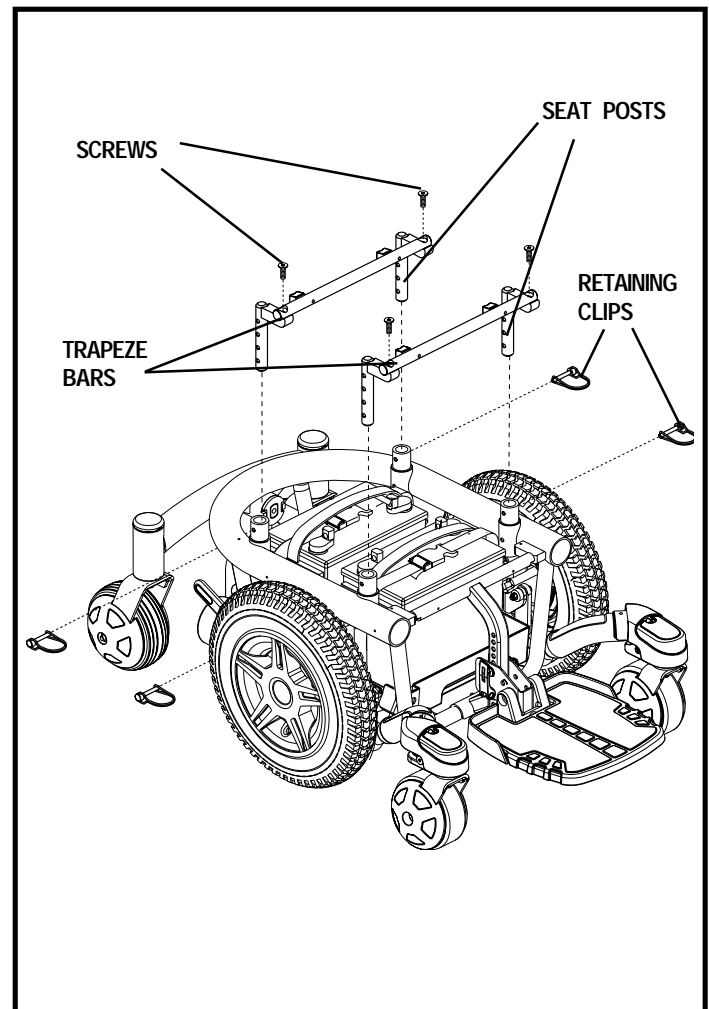

Figure 12. Trapeze Bar Adjustment
7. Loosen the screws that attach the trapeze bars to the seat posts. See figure 12.
8. Remove the retaining clips that secure the seat posts to the power base. See figure 12.